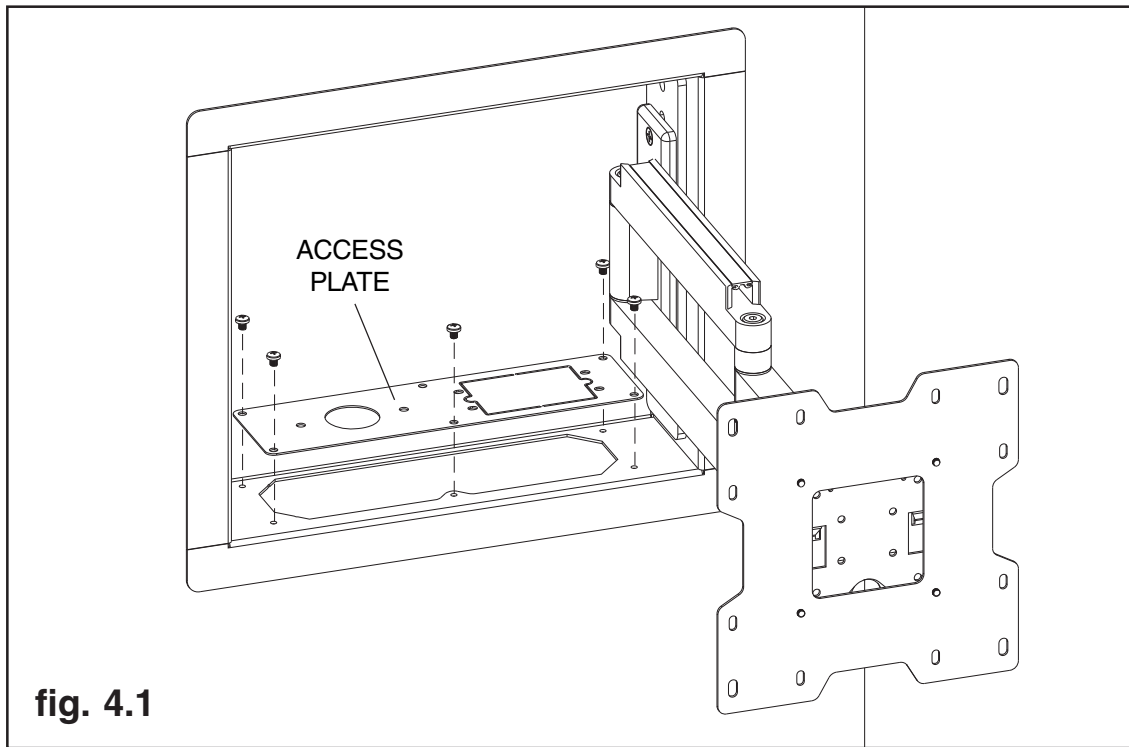

fig. 4.1
- 4 For optional installation of electrical gang box, access plates located on the bottom or top of in-wall box can be temporarily removed to install electrical gang box as shown in figure 4.1.